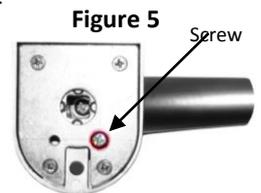

Figure 5
NOTE: There are two fixing positions for the small screw on the reverse of the internal lever handle (Figure 5&6). The direction the lever handle projects when looking at the reverse will determine which fixing position is used.
- If, when looking at the reverse of the internal lever handle, the lever projects to the right position and secure the screw as shown in Figure 5